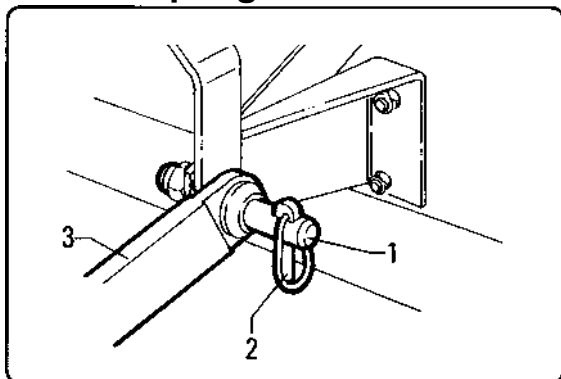

fig. 4.2.1
- Reverse the tractor towards the machine, aligning the tractor lift links with the two side coupling pins “1” fig. 4.2.1.
- Fix them in place by means of the relative safety pins “2” fig. 4.2.1.